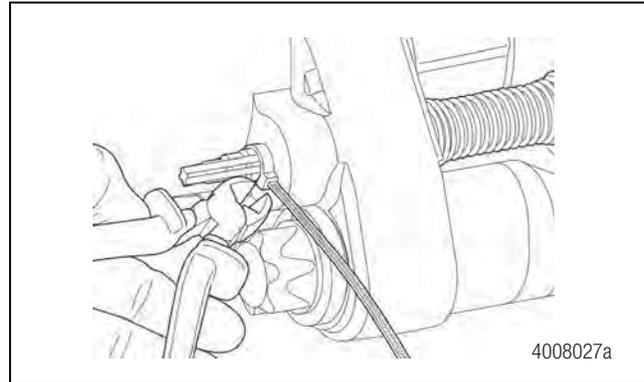

Figure 5.60
3. Remove the clip/retainer from the visual wear indicator where applicable. Figure 5.60.